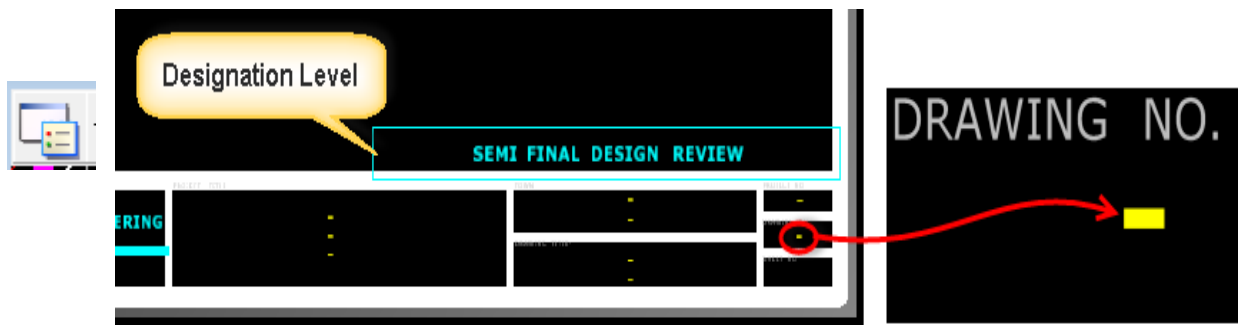

Figure 55 - Tag Marks in Plan Border Title Block
2. **Data Point** on any one of the dashes (Figure 55) within the title block. If dashes are not visible, click on the View Attributes icon in the view window and click **ON** the Tags.
6. Click on  **Level Display**. Turn Off the levels for the notes (Designation Level) not needed above the title block (Figure 55), such as New Sheet by Addendum, Semi-final Design Review etc. Also turn-off the levels for the scales not needed.